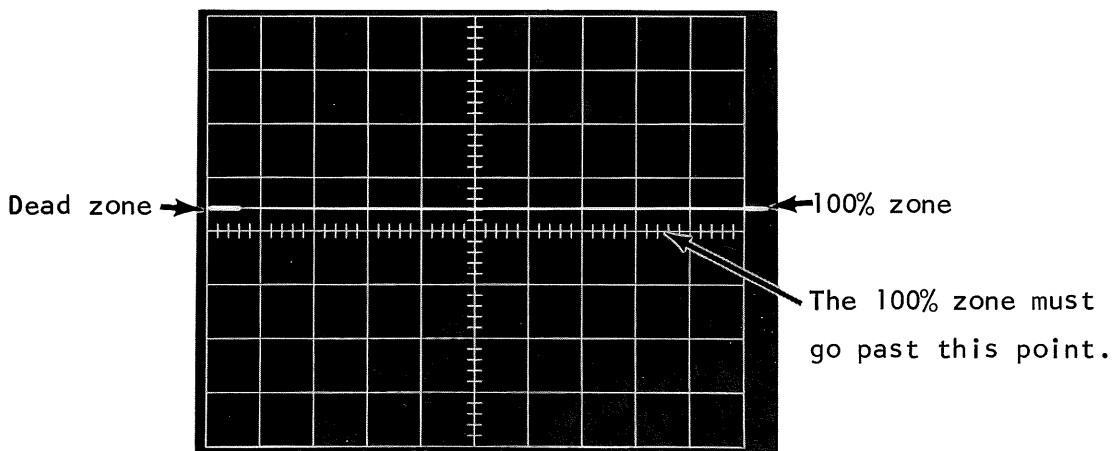

Figure 2-11
2. Set the A 100% ZONE POSITION control full CW. The 100% zone must go 8.5 divisions from the start of the trace. See Figure 2-11.